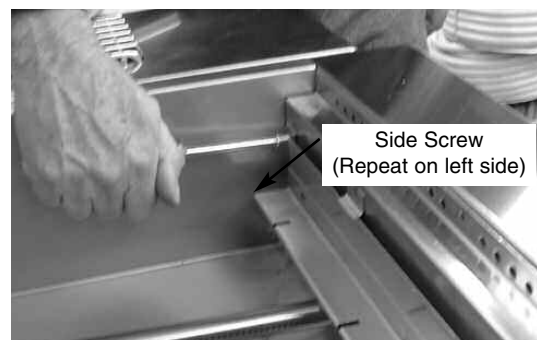

Fig 6
6. Loosen the two (2) side heat shield screws located under the bottom lip of the heat shield. There is one screw on each side. (See Fig. 6)